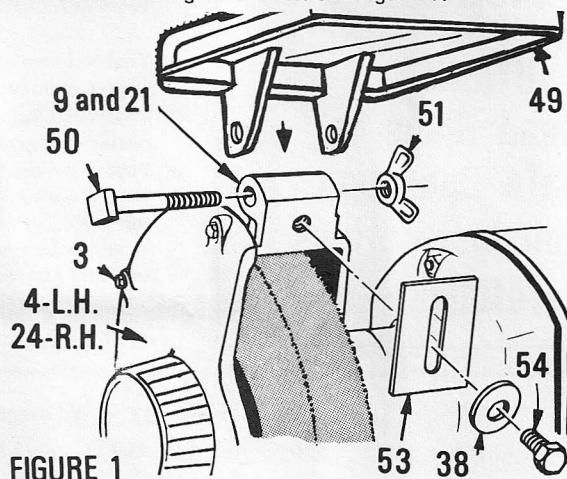

FIGURE 1
1. Attach wheel covers (4 & 24) to wheel guards (9 & 21) using eight screws (3) furnished. See figure 1.
2. Attach spark arresters (53) to top front of wheel guards (9 & 21) using flat washers (38) and bolts — 5/16-18 x 3/8 (54). Adjust spark arresters to 1/16 inch from wheel and tighten bolts. See figure 1.
3. Fasten eyeshield (49) to top of wheel guards (9 & 21) using bolts — $\frac{1}{4}$ -20 x $2\frac{1}{4}$ (50) and wing nuts (51). See figure 1.